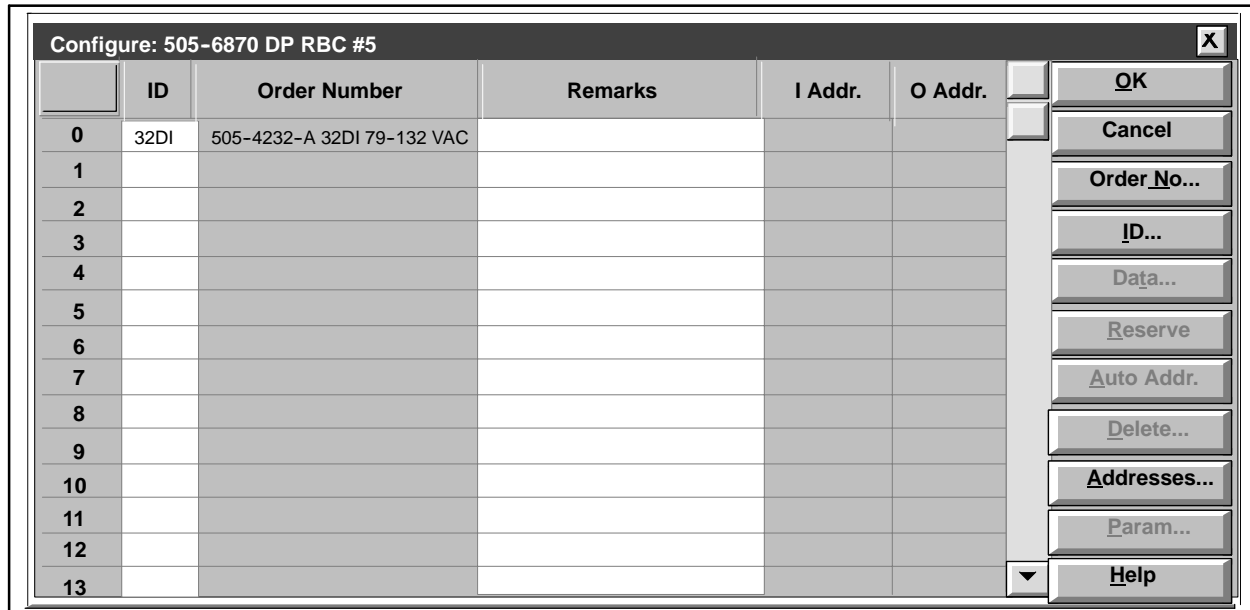

Figure 9-8 Configuring a Module
- The module appears in the Configure dialog box (Figure 9-8). Click **OK** on the Configure dialog box to confirm your configuration.